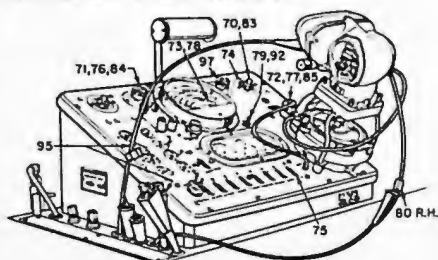

Fig. 17
- 70** Set the spark gap selector at 120 lbs. compression (Fig. 17).
- 72** Plug the meter into the milliamp socket (Fig. 17).